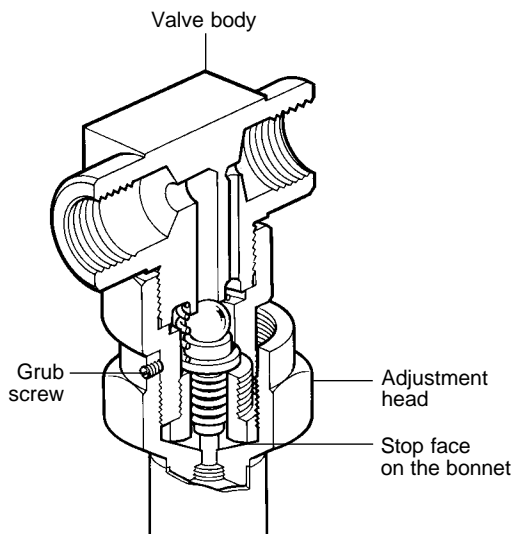

Fig. 4
- 4.3** With reference to Figure 4, screw the adjustment head all the way on (clockwise) until it contacts the stop face on the bonnet.